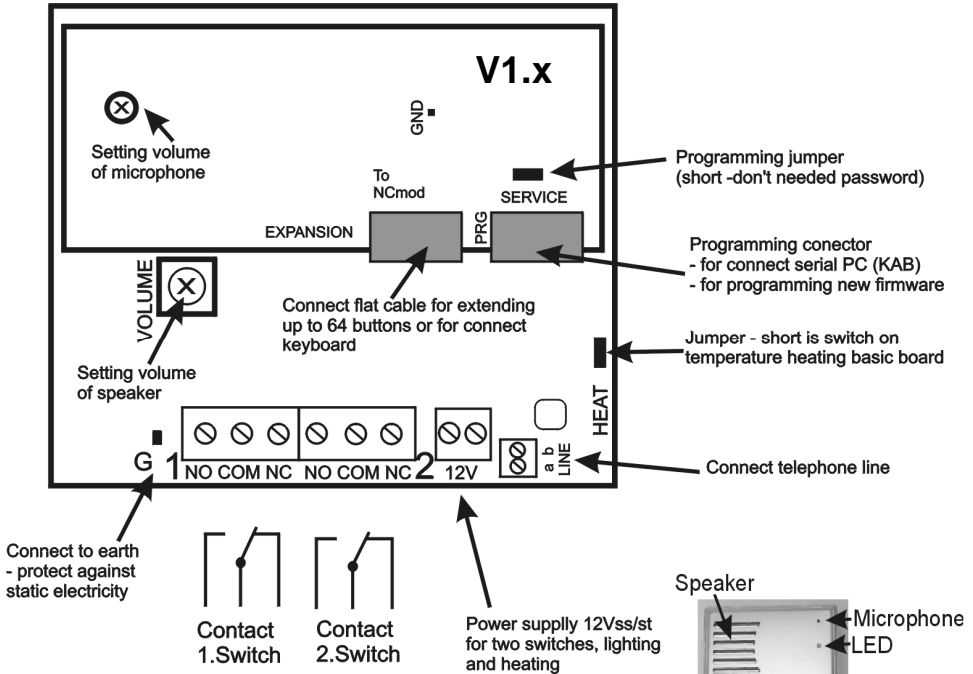
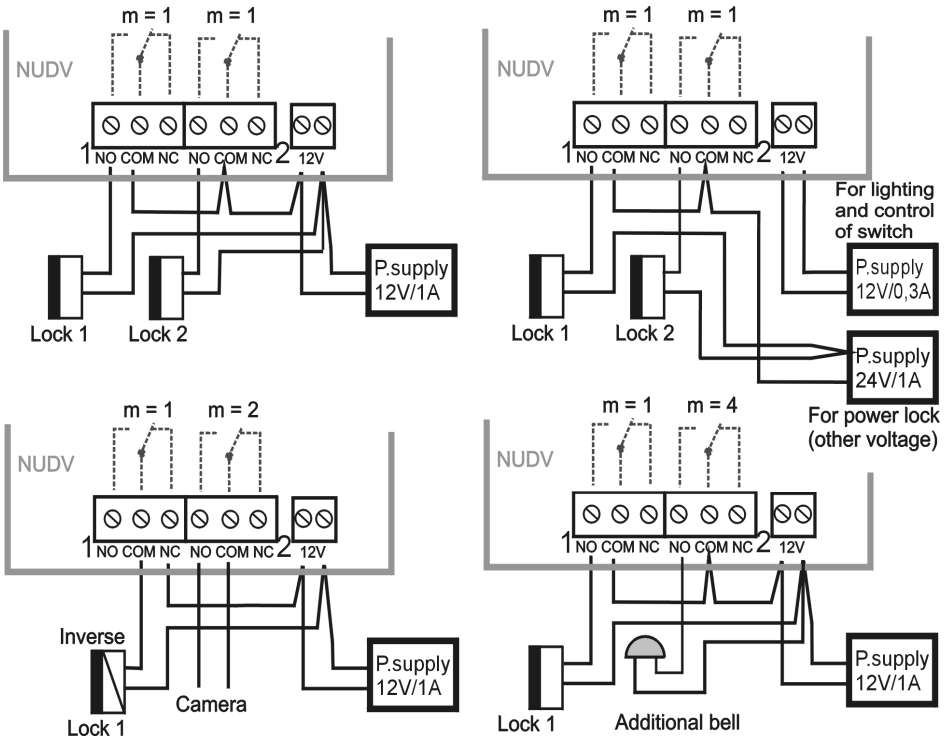

Fig. 1 Rear view of basic module
Fig. 3 Examples of switch connections
The connection of switch contact terminals is shown on fig. 1. The "NO" designation means an idle-disconnected contact, "COM" means a pin contact (middle) and "NC" means an idle-connected contact. The contacts of both switches are galvanically isolated each other and from other guard circuits. The variants of connection are shown on fig. 3.
**For older version of board V1.x (fig.1) :**